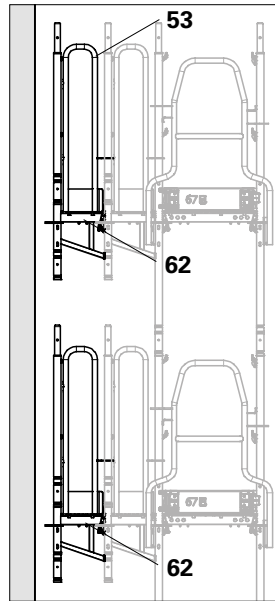

Fig. D1.06
- Fit Console Bracket ECM 33 (**62**) onto the edge frame columns with pre-assembled Guardrail Post EVP (**50**) and End Guardrail EPF (**53**). (Fig. D1.06 + D1.06a)